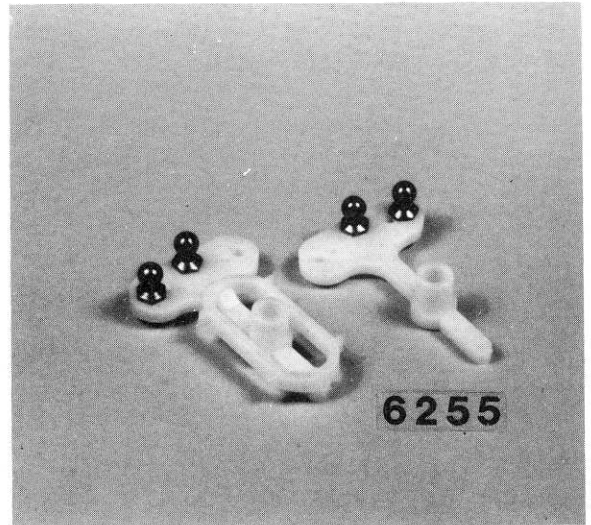

Fig. 19
□ **Fig. 19** In Bag #6-2, take the #6255 servo saver parts, and install the 4 short ball ends, as shown.